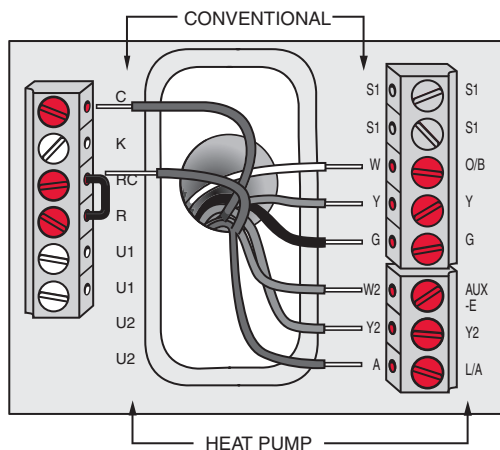

Fig. 19. Thermostat wired directly to equipment.
- Refer to Fig. 19. See Table 10 on page 118 for terminal designations and “Wiring” beginning on page 117 for more information.